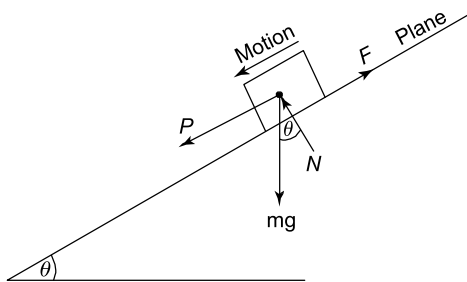

Figure 17.7
In this case, the frictional force F acts up the plane, opposite to the direction of motion of the plane, as shown in Figure 17.7.
Problem 8. If the mass of Problem 7 were subjected to the force P , which acts parallel to and down the plane, as shown in Figure 17.7, determine the value of P to just move the body.
6. For a mass of 50 kg, just moving down an inclined plane, as shown in Figure 17.7, what would be the value of P , given that $\theta = 20^\circ$ and $\mu = 0.4$? [$P = 16.6 \text{ N}$]